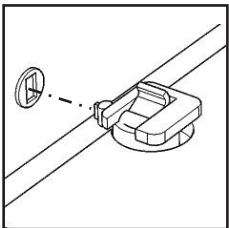

Figure 2
Attach Base (D) and Side Panel (E) to Back Panel (C), then flip the Locks. (See Figures 2 and 3)